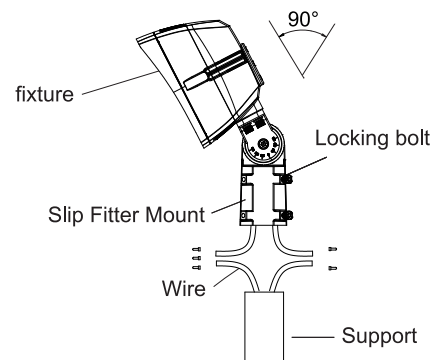

figure 2.4
Step 3: Loosen screws; Adjust fixture angles as per actual demands and tighten screws later; Angles of the fixture is adjustable (pass the bracket through mounting surface, fix it with screws, then connect the wires as per proper wiring requirements.) (figure 2.4)